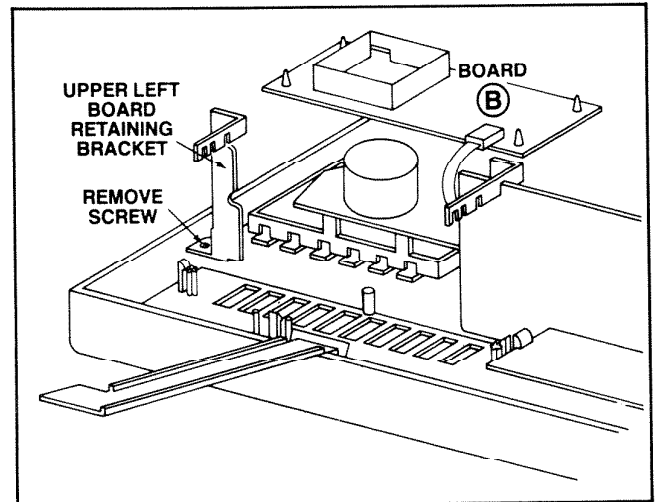

FIGURE 7
- (d) Turn Board (B) over and carefully lay on top, out of the way. See Figure 7.
- (e) Remove upper left board retaining bracket and set it aside, it will be reinstalled later. See Figure 7.